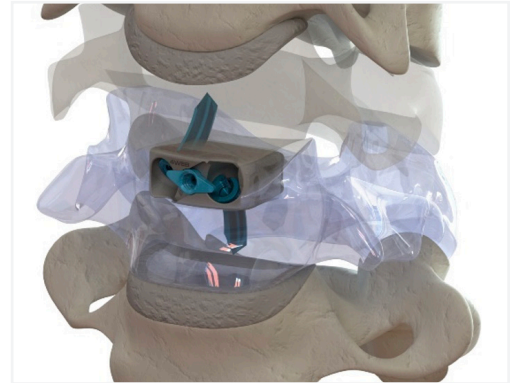

Figure 11
- ▶ Rotate the Locking Plate with the Straight Driver to approximately 90° clockwise to lock the Fixation Anchors into the Implant Assembly (Fig. 11). The wings of the Locking Plate will stop against the recess on the anterior face of the interbody.